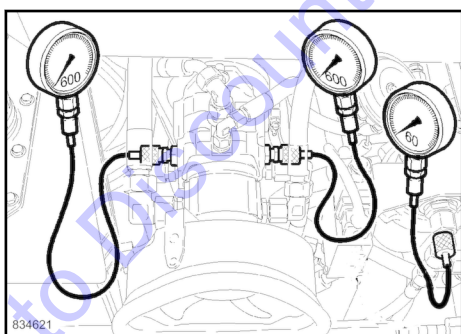

Fig. 109
3. Connect 600 bar pressure gauges to the high pressure test ports for M_A and M_B and a 60 bar pressure gauge ↪ Fig. 109 to the charge pressure test port.